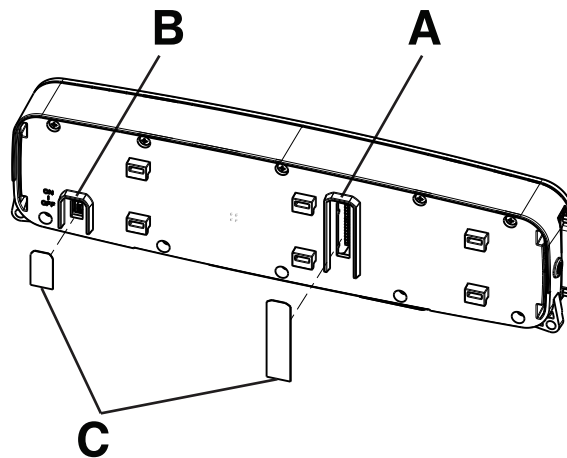

Figure 2 – Switch configuration
2. Using a straight pick, configure the SB1 and SB2 dip-switches (A) to match the nurse call system and nurse call communication cable (Figure 2).
3. Using a straight pick, turn the **Secure Connect ON/OFF** switch (B) to the **ON** position (Figure 2).
4. Affix the two supplied IPX labels (C) over the dip-switch and the **ON/OFF** cutouts located on the back of the **Secure Connect** (Figure 2).